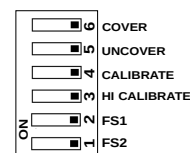

Figure 18: DIP Switch
- Unscrew the cover and ensure that all DIP switches are in OPEN position as shown in Figure 18. Make sure that STATUS LED is not blinking for error.
- Unscrew the cover and ensure that all DIP switches are in OPEN position as shown in Figure 18. Make sure that STATUS LED is not blinking for Error.